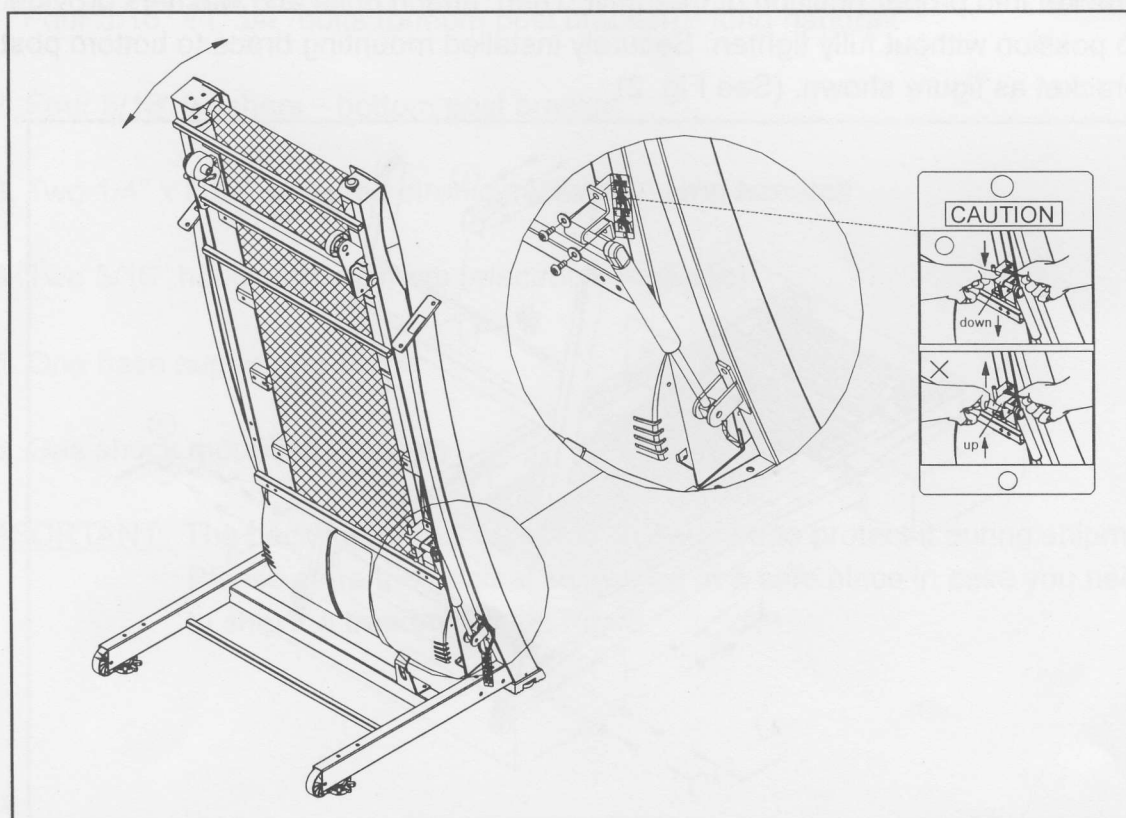

Fig.4
4. Attach the gas shock mounting bracket to proper position, but do not push gas shock mounting bracket upward all the way to its maximum. Then, securely tighten all bolts and washers. (See Fig. 4)